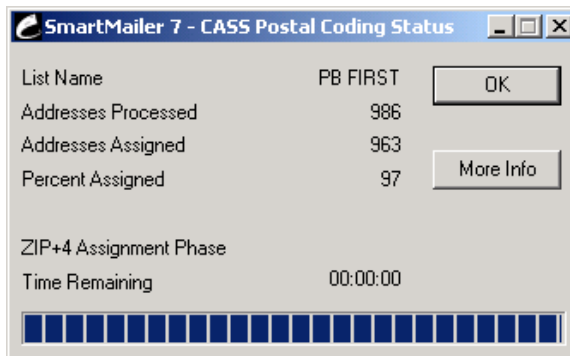

Figure 3-5
1. Click **Postal Code** in the PB FIRST main menu. The SmartMailer – CASS Postal Coding Status message box appears (Figure 3-5). It provides the number and percent of addresses in the file that have been successfully postal coded.